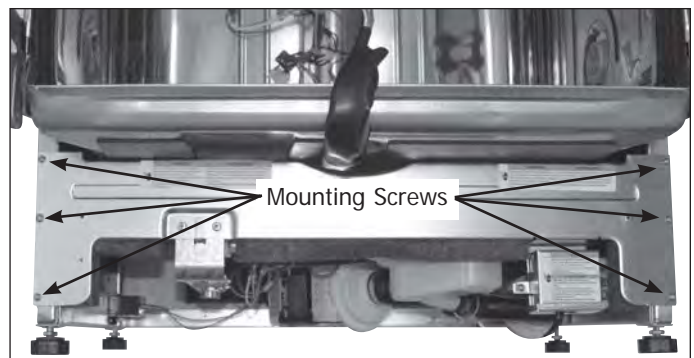

Figure 4-21.
6. Extract the six screws securing the front cross piece to the lower front of the cabinet. (See Figure 4-21)